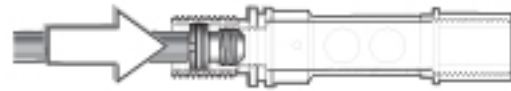

Figure 44 - Crown installation
1. Install the O-ring (26) onto the crown (25), and carefully insert the threaded end of the crown into the inlet end of the valve body (23). Gently press it in further with the blunt end of the seat extraction tool (PN 109436) until it stops (see Figure 44).